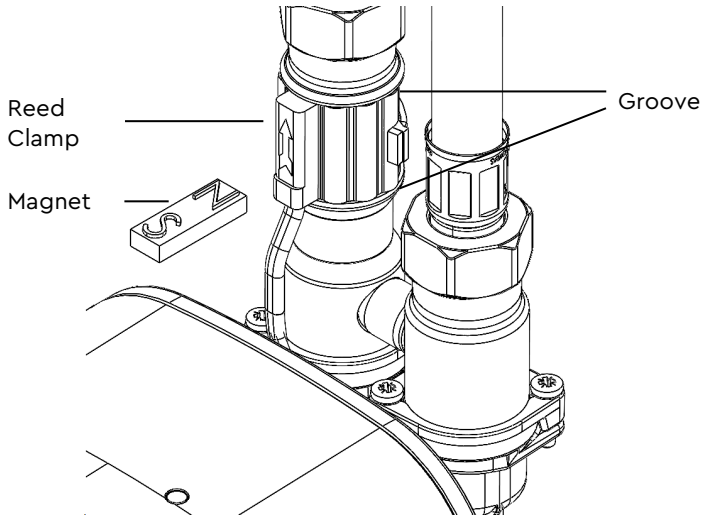

Figure 5
Reed clamp out of position	Ensure reed clamp is fitted correctly in location groove (Fig. 5)
1. First confirm visually that the flow switch reed clamp has not been dislodged during handling or installation. The clamp must be fully located within its flow switch body groove as shown (fig 5).